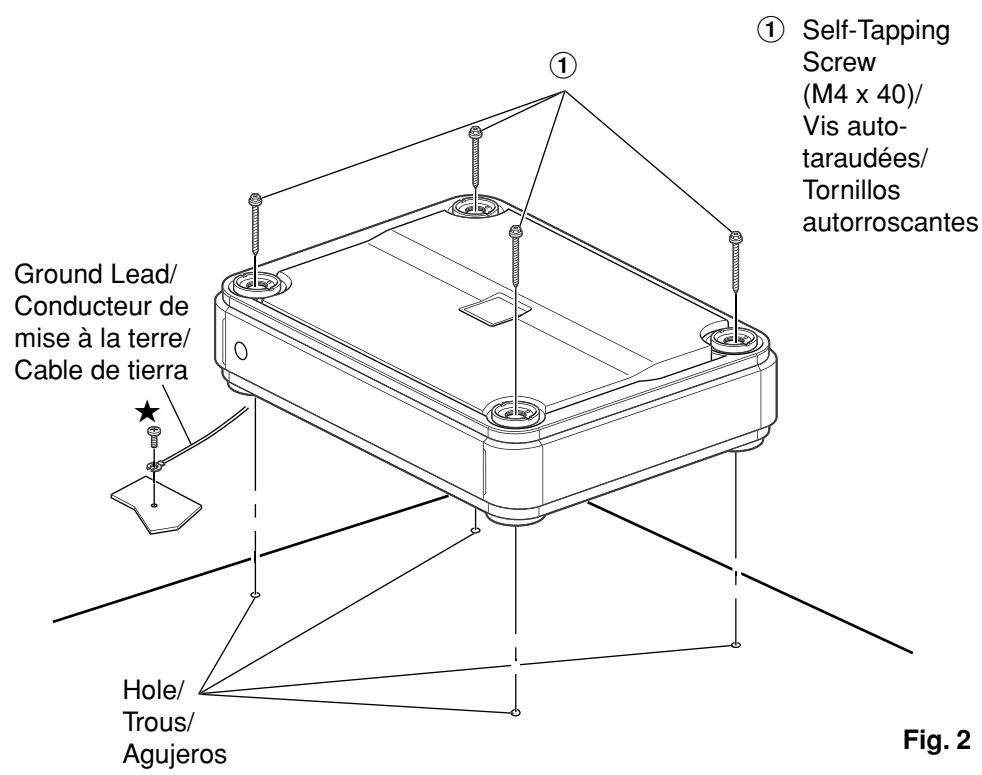

Fig. 2
- Fasten the unit down with the four self-tapping screws (M4 x 40, supplied). Refer to fig.2.